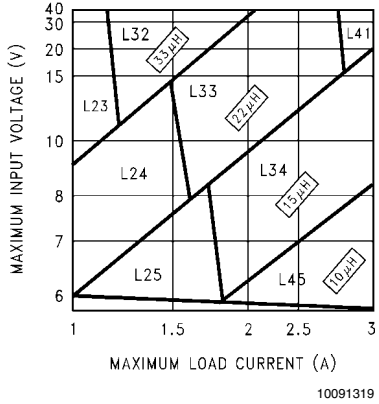
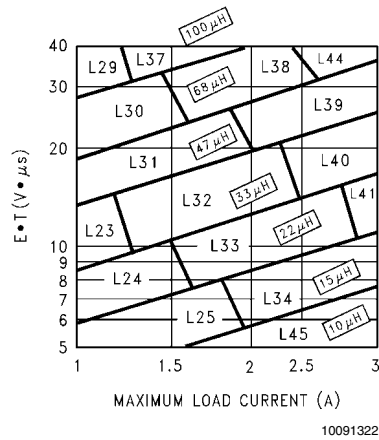

FIGURE 3. LM2673-3.3
FIGURE 6. LM2673-ADJ
**Step 3:** Determine the inductor required by using one of the four nomographs, *Figure 3* through *Figure 6*. Table 1 provides a specific manufacturer and part number for the inductor.
**Step 5:** Determine an input capacitor from Table 4 for fixed output voltage applications. Use Table 2 to find the specific capacitor type. For adjustable output circuits select a capacitor from Table 2 with a sufficient working voltage (WV) rating greater than  $V_{in\ max}$ , and an rms current rating greater than one-half the maximum load current (2 or more capacitors in parallel may be required).
**Step 3:** Use the nomograph for the 3.3V device, *Figure 3*. The intersection of the 16V horizontal line ( $V_{in\ max}$ ) and the 2.5A vertical line ( $I_{load\ max}$ ) indicates that L33, a 22 $\mu$ H inductor, is required.
**Step 3:** To use the nomograph for the adjustable device, *Figure 6*, requires a calculation of the inductor Volt•microsecond constant ( $E \cdot T$  expressed in  $V \cdot \mu S$ ) from the following formula:
Using *Figure 6*, the intersection of  $27V \cdot \mu S$  horizontally and the  $2A$  vertical line ( $I_{load} \text{ max}$ ) indicates that L38, a  $68\mu H$  inductor, should be used.
**Important Note:** When using the adjustable device in low voltage applications (less than  $3V$  output), if the nomograph, *Figure 6*, selects an inductance of  $22\mu H$  or less, Table 6 does not provide an output capacitor solution. With these conditions the number of output capacitors required for stable operation becomes impractical. It is recommended to use either a  $33\mu H$  or  $47\mu H$  inductor and the output capacitors from Table 6.